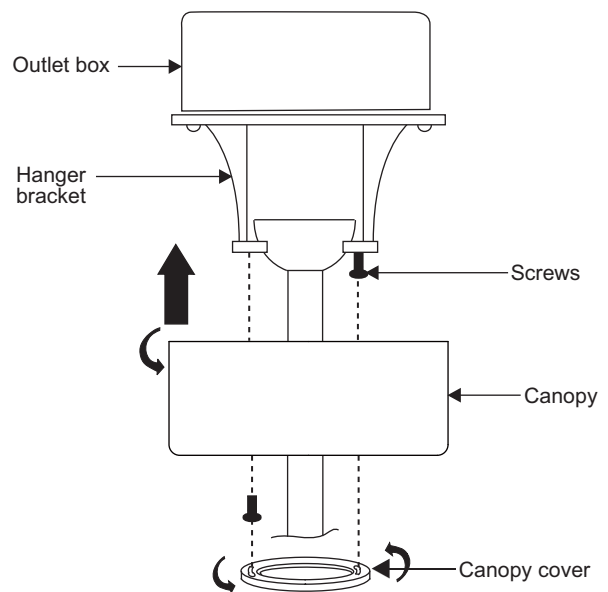

Figure 11
**Note:** Adjust the canopy screws as necessary until the canopy and canopy cover are snug. (Fig. 11)